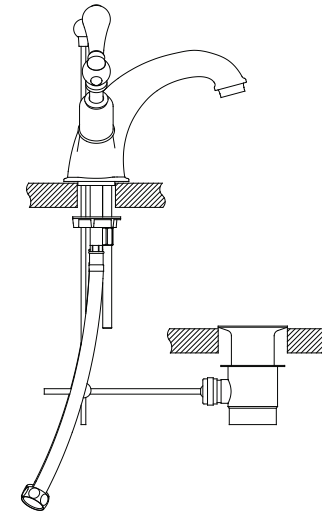

Fig. 2
- Use the rubber seal and horseshoe plate provided to install the mono basin mixer into the basin as shown in Fig. 2;